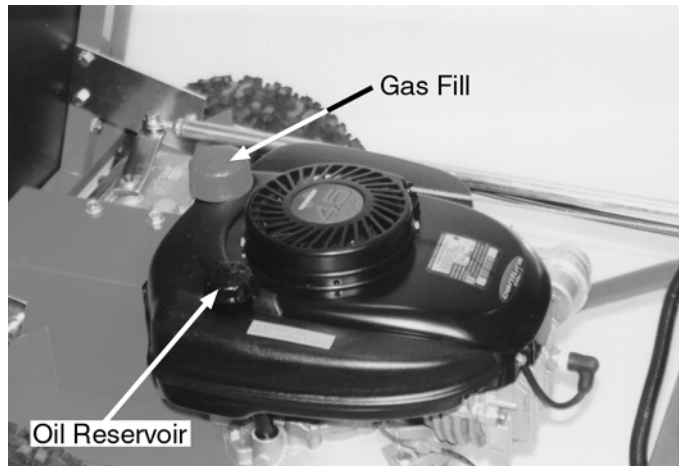

Figure 4
1. Put the recommended amount of SAE30 detergent oil into the oil reservoir (Figure 4). Fill the oil to the level indicated on the dipstick.
2. Fill the gas tank (Figure 4) with fresh unleaded gas to within 1/4" of the top to allow for fuel expansion. Please refer to your engine manufacturer's owner's manual for more specific fuel recommendations.